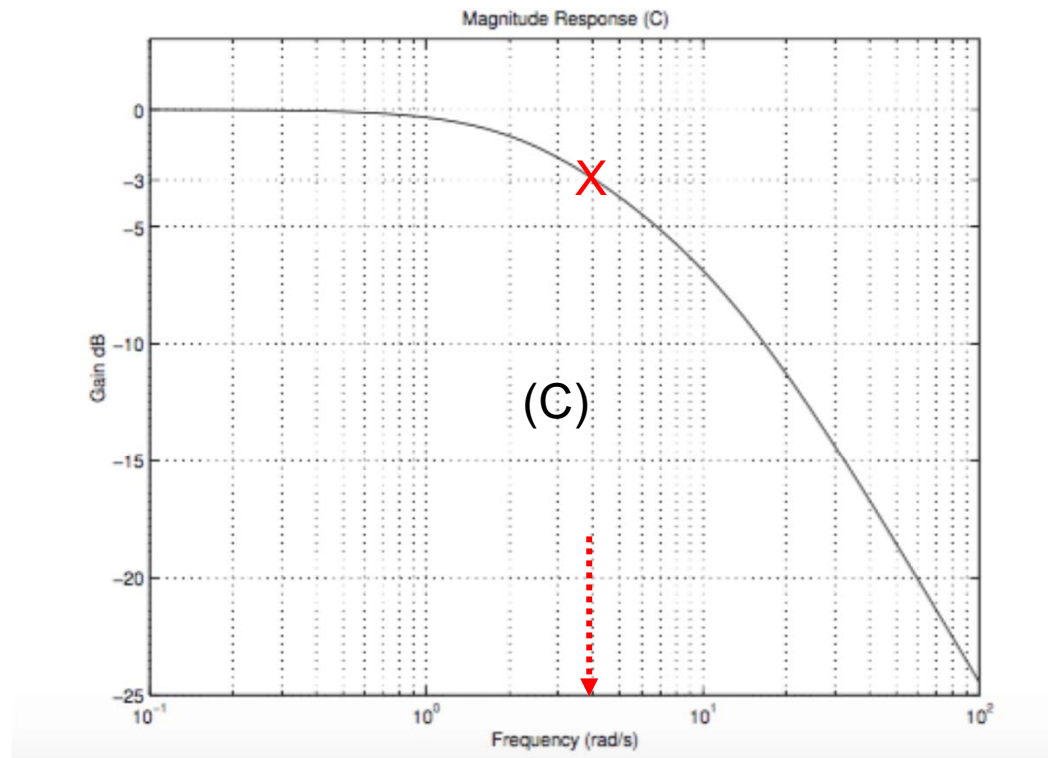

Figure 3: Magnitude response
3. The magnitude responses for the following second-order systems are shown in Figure 3.